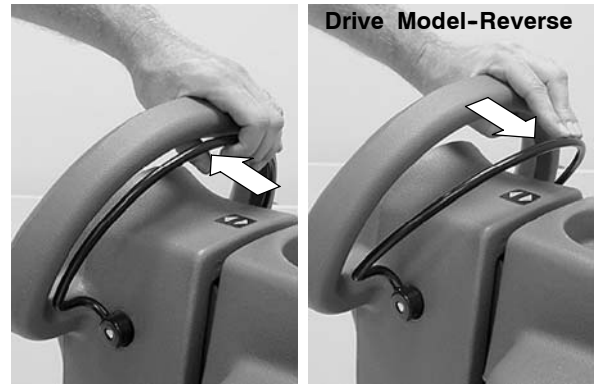

FIG. 20
5. Pull the activation bail towards you to start scrubbing (Figure 20). The drive model will automatically propel forward. To reverse the drive model, simply push the activation bail forward.